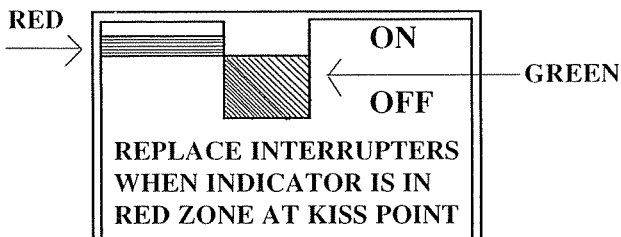

Fig. 10
Connect continuity leads to line and load terminals of phase L1, with contactor de-energized, using 1/4 hexagon Allen Wrench on shaft, close contactor manually until continuity is made. The green bar "must not" be in the red zone, when continuity is made, refer Fig. 10 if it does electrical life is exhausted. Proceed to phase L2 phase L3 and repeat to complete the contactor test. If any test allows the indicator to fall in the "RED ZONE" before continuity is made then the interrupter being tested requires to be replaced.
- Contact wear measurement (Refer to Contact Wear Measurement). Fig. 10